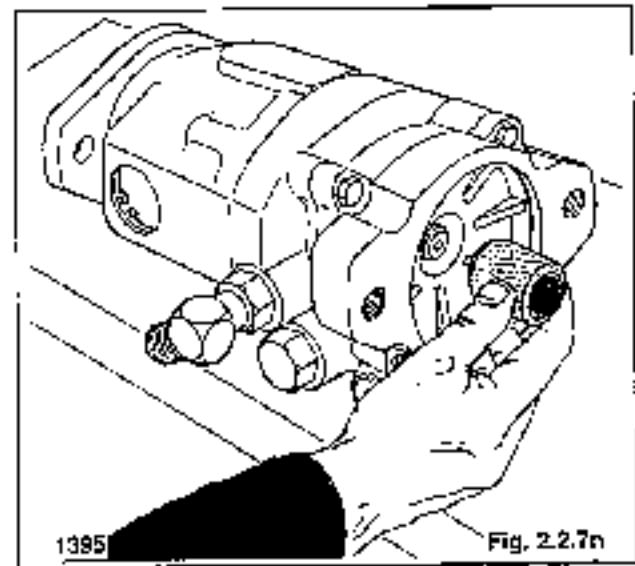

Fig. 2.2.7n
14. Install the spined drive coupler to the rear piston pump (fig. 2.2.7n).